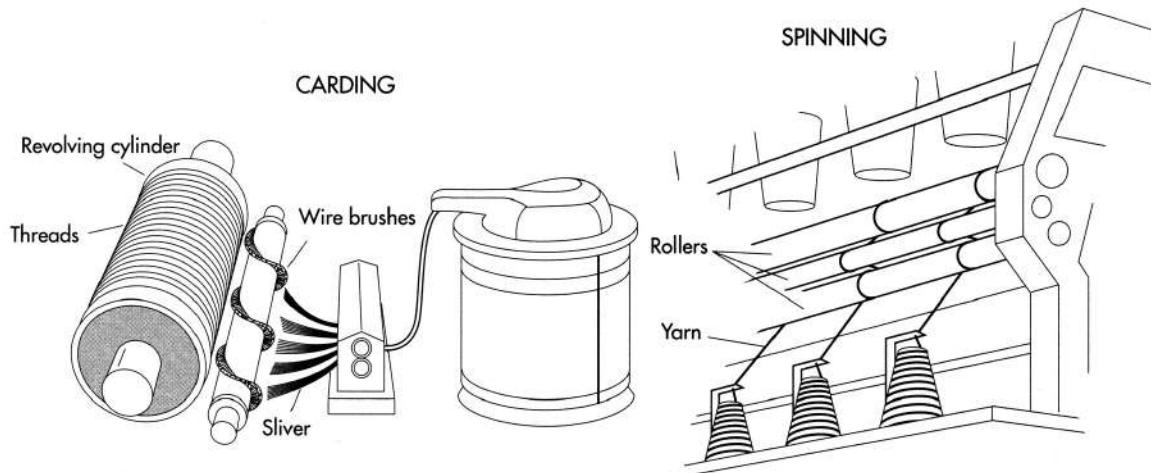

Figure 1. The first two steps in denim jeans manufacture are carding and spinning.
removed from tightly packed bales and inspected before undergoing a process known as “carding” (see figure 1). In this process, the cotton is put through machines that contain brushes with bent wire teeth. These brushes, called “cards,” clean, untangle, straighten, and gather together cotton fibers. At this point, the fibers are called “slivers.”
2. Other machines join several slivers together, pulling and twisting them for added strength. Next, these sliver ropes are put on spinning machines that further twist and stretch the fibers to form yarn (see figure 1).